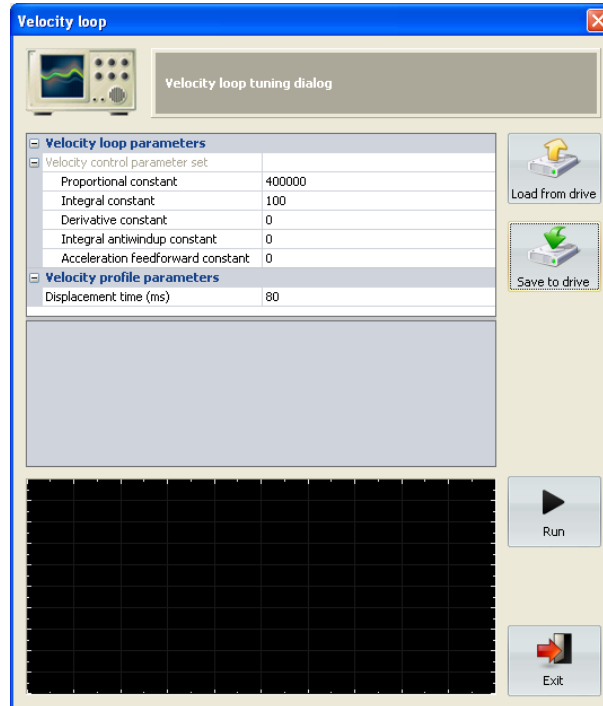

Figure 9: Velocity loop
- 3. Velocity loop tuning:** When pressing at the “V loop” button of the main window a dialog box with the parameters of the velocity loop will appear (see Figure 9). This dialog has a scope that helps to tune the parameters properly. Once the parameters are modified they could be saved into the drive (using save to drive button) and run an execution. The system will apply a step of velocity and the result will be presented in the scope.